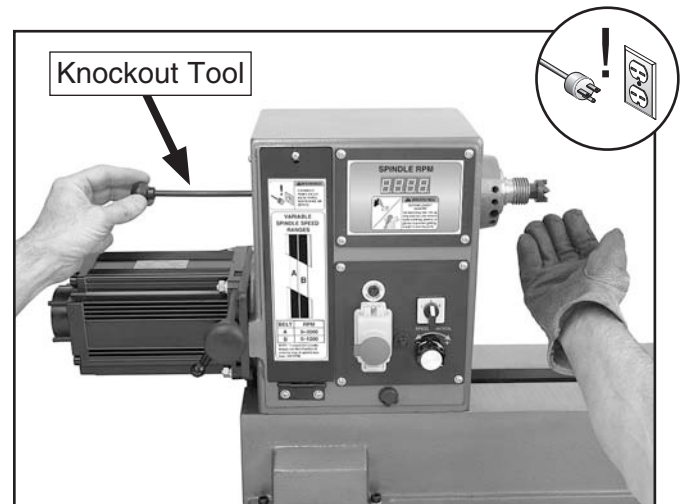

Figure 23. Removing the headstock center.
3. Insert the knockout tool through the outbound end of the spindle and firmly tap the back of center, catching it as it falls (see **Figure 23**).